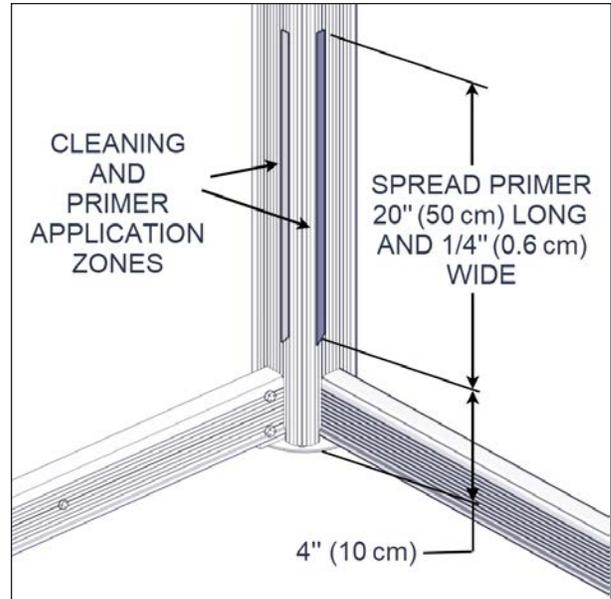
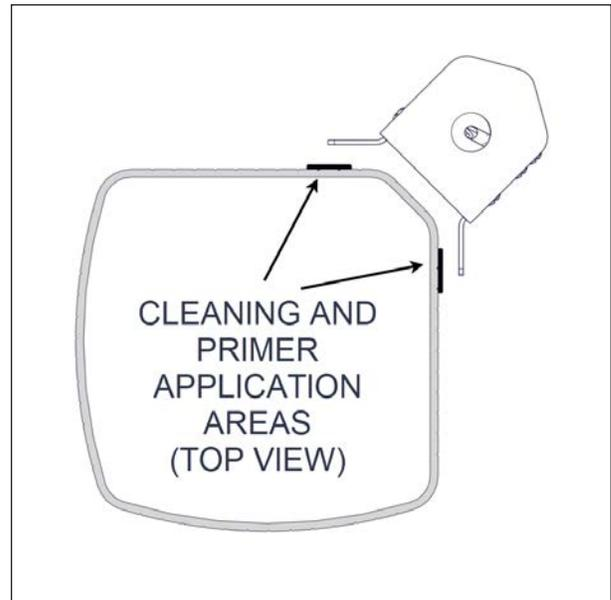

FIGURE 55: AREAS TO CLEAN
FIGURE 56: AREAS TO CLEAN AND TO APPLY THE PRIMER 94 (TOP VIEW)
7. Clean the surface of the outer sleeve positioned on the opposite corner of the light button. Remove any dirt or contaminant and dry the surface see Figure 55 and Figure 56.
8. Use the supplied alcohol swab and rub it on the surface of the outer sleeve positioned on the opposite corner of the light button to clean the surface see Figure 55 and Figure 56. Wait two minutes for the alcohol to dry.
9. Apply the primer on the inside corner of the indicated areas. Refer to Figure 55 and Figure 56. The wire guard can also be held in place and taped off around its perimeter to mark off the application area.